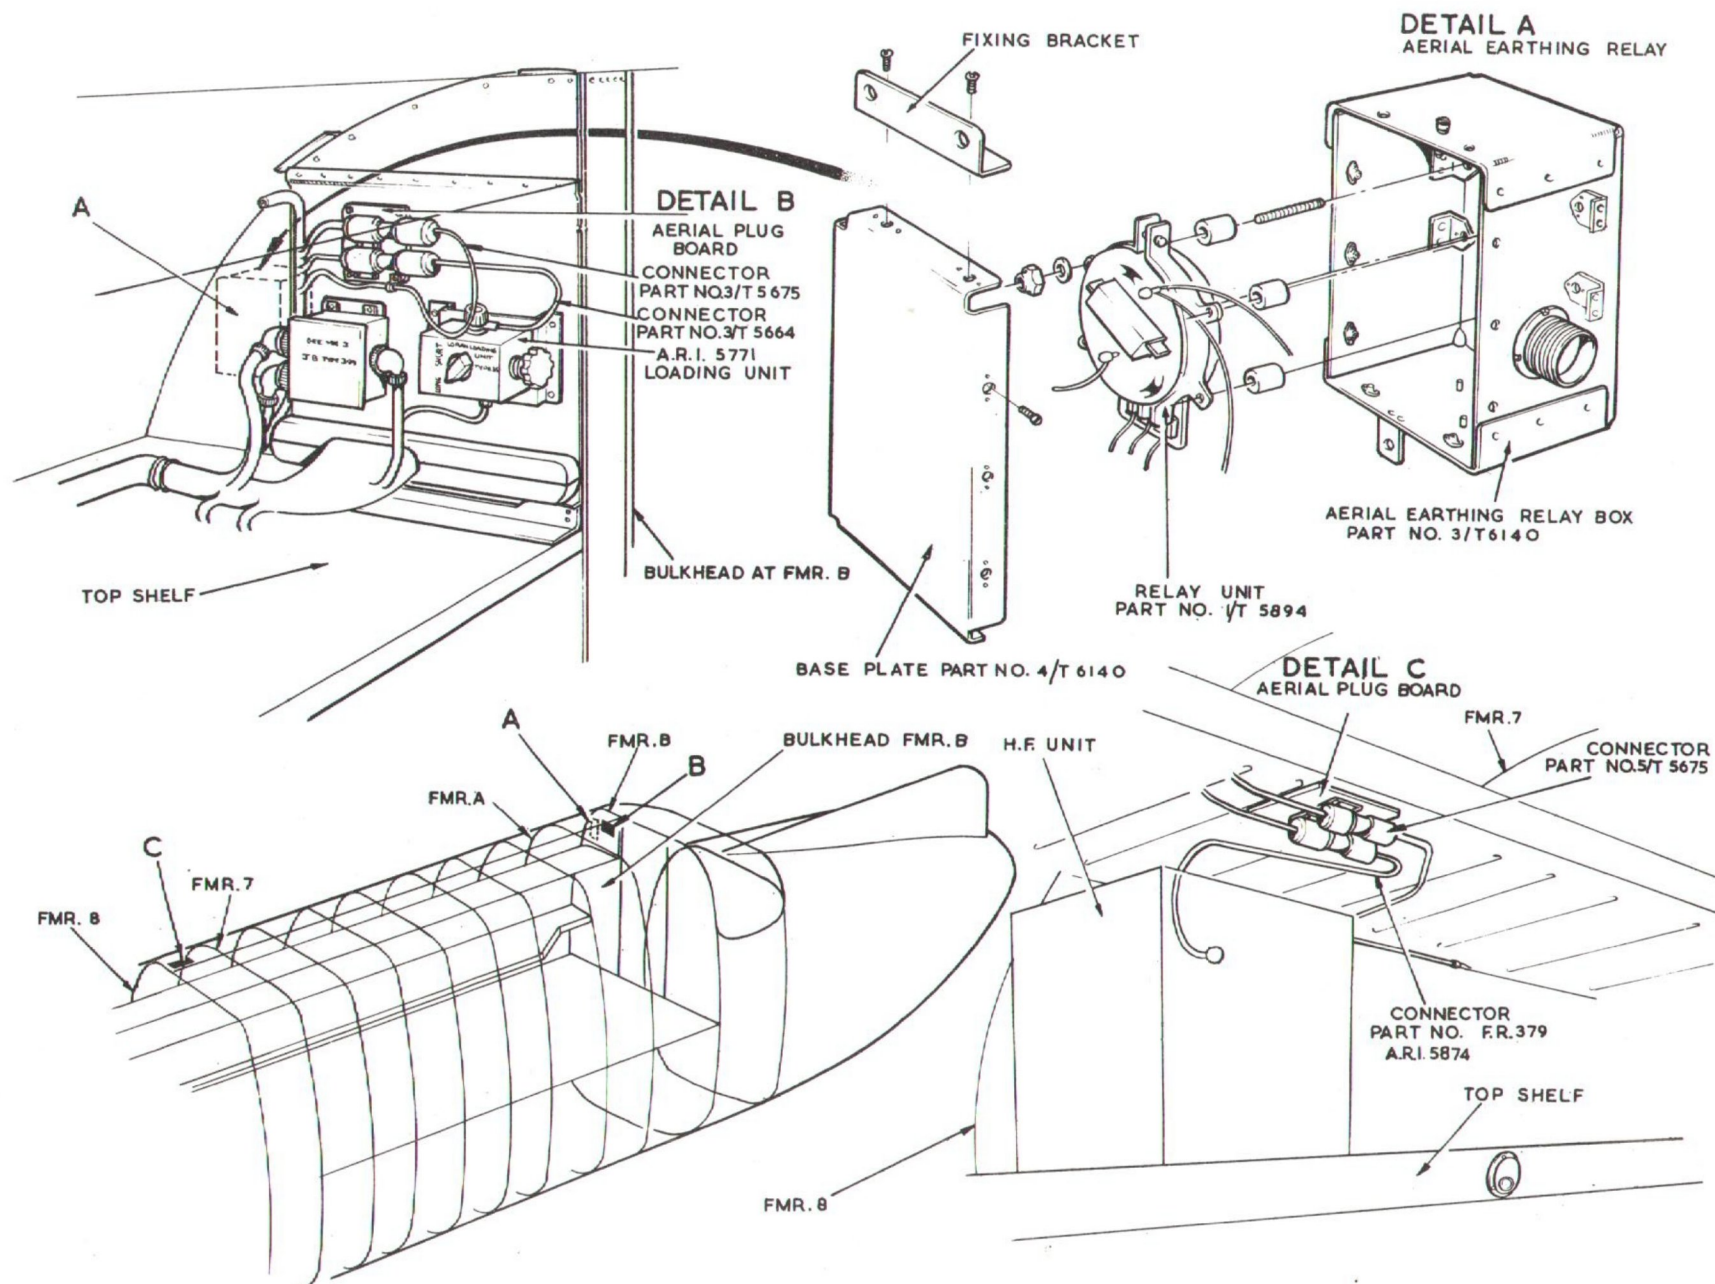

Fig.2 - Plug boards and earthing relay
7. The aerial earthing relay is fitted to the forward face of bulkhead B (fig.2). Operation of a press-to-transmit switch